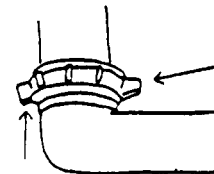

Figure 3a
4. As you hold the elbow tight onto the tube, tighten the nut over the gasket and the elbow. (Figure 3a)